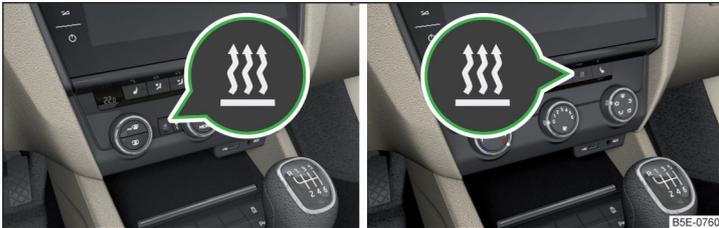

Fig. 139 Button for switching on / off (Climatronic / manual air conditioning)
- ▶ Using the **!** button on the operating part of the air conditioning» Fig. 139.
When automatic switching on is activated, the warning light in the **!** symbol button lights up for about 10 seconds after the ignition is turned off » Fig. 139.